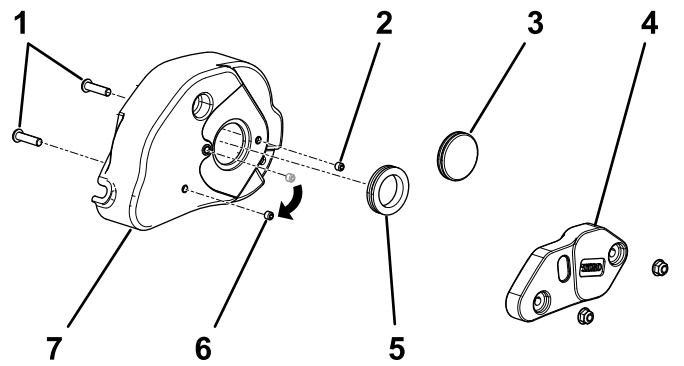

Figure 3
3. Remove the solid rubber grommet from the cover, and replace it with the rubber grommet ring (Figure 3).
4. Remove and discard the 2 screws threaded into the cover (Figure 3).
5. Remove the setscrew from the center hole in the groomer cover (Figure 3).
6. Install the existing setscrew and the setscrew included with the kit into the holes previously used for the cover-mounting screws (Figure 3).
2. Remove and discard the 2 flange nuts securing the groomer weight to the groomer cover (Figure 3).